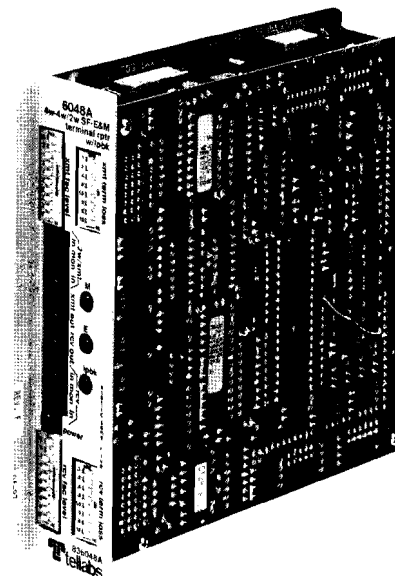

figure 1. 6048A 4Wire-to-4Wire or 4Wire-to-2Wire SF-to-E&M Terminal Repeater module
1.01 The 6048 and 6048A 4Wire-to-4Wire or 4Wire-to-2Wire SF-to-E&M Terminal Repeater modules (figure 1) each provide both active transmission interface and bidirectional signaling conversion between a 4wire facility that uses 2600Hz single-frequency (SF) signaling and a 4wire or 2wire trunk or line that uses E&M signaling. Unlike the 6048, the 6048A contains transmission and signaling loopback circuitry to facilitate local or remote testing of the module and the facility. As members of Tellabs' 262 Network Terminating Equipment/Data Station Termination (NCTE/DST) System of modules and enclosures, the 6048 and 6048A each fulfill Registered Facility Interface Codes TC11E, TC11M, TC12E, TC12M, TL11E, TL11M, TL12E, and TL12M when optioned for 4wire-to-2wire operation and Registered Facility Interface Codes TC31E, TC31M, TC32E, TC32M, TL31E, TL31M, TL32E, and TL32M when optioned for 4wire-to-4wire operation in applications where the serving telephone company uses facility-side SF signaling.